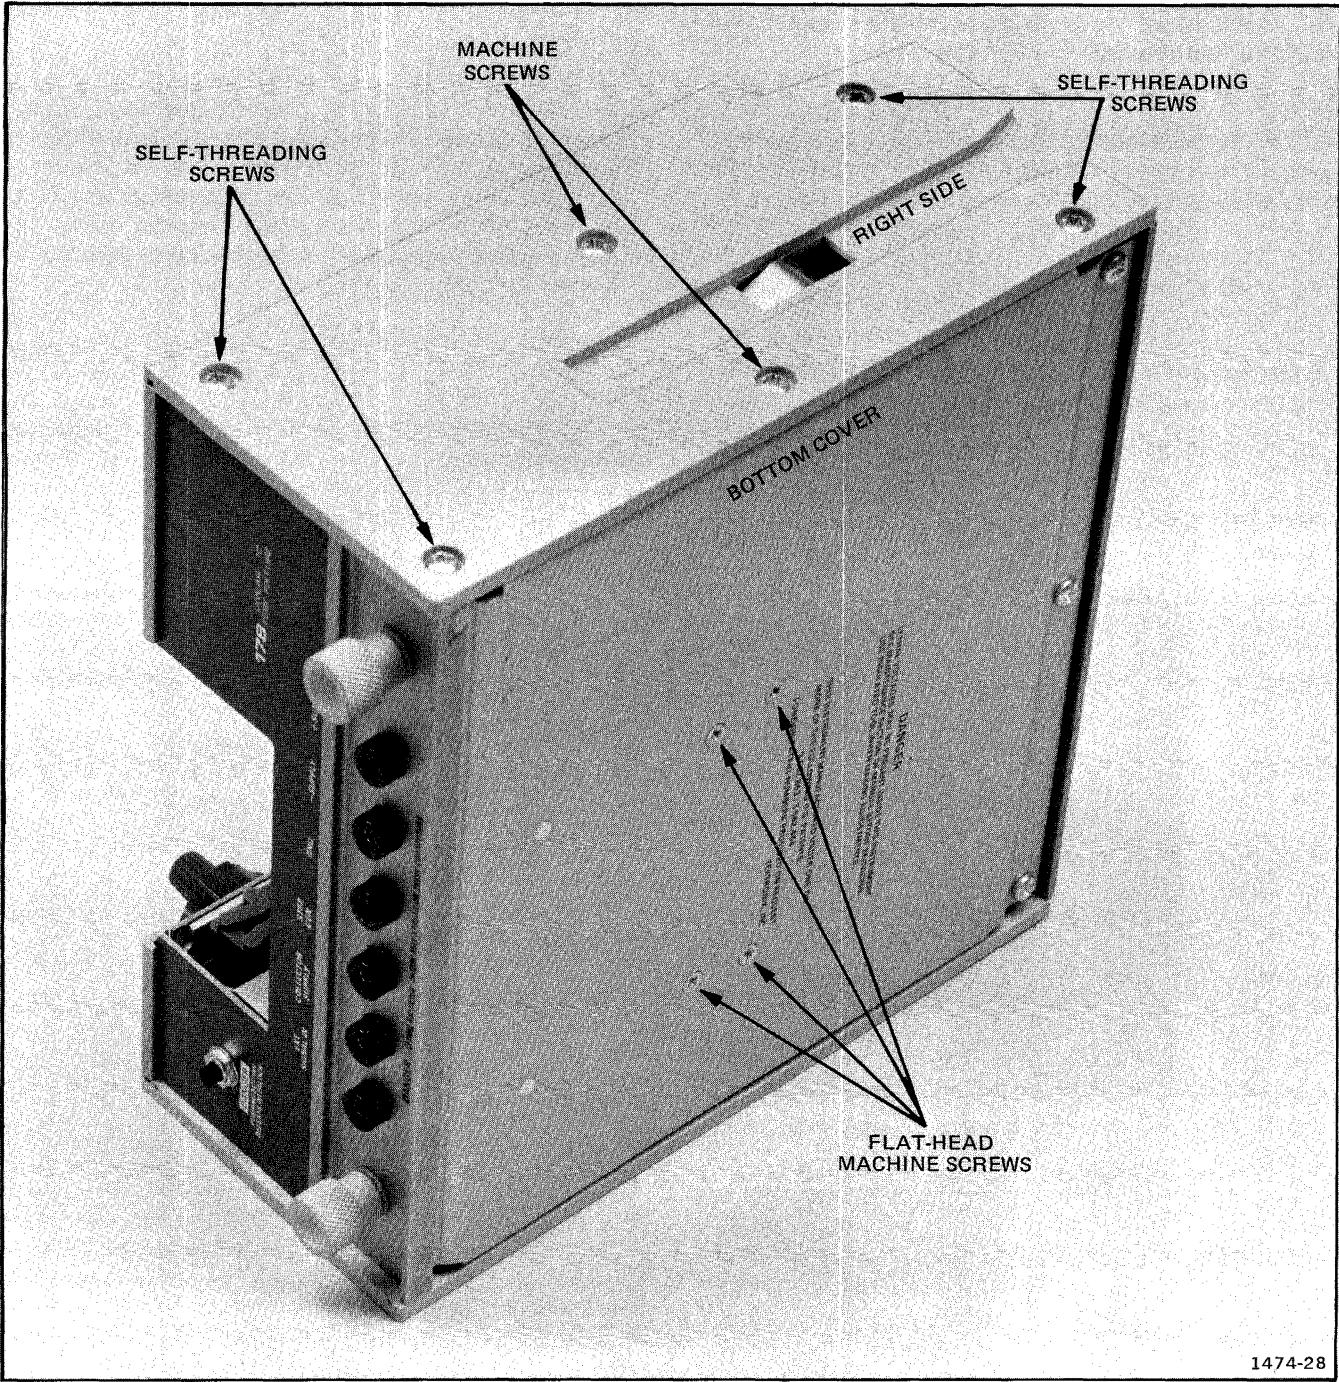

Fig. 4-2. Right-side and bottom panel of the 178.
a. Remove the three pan-head machine screws from the bottom panel (see Fig. 4-2).